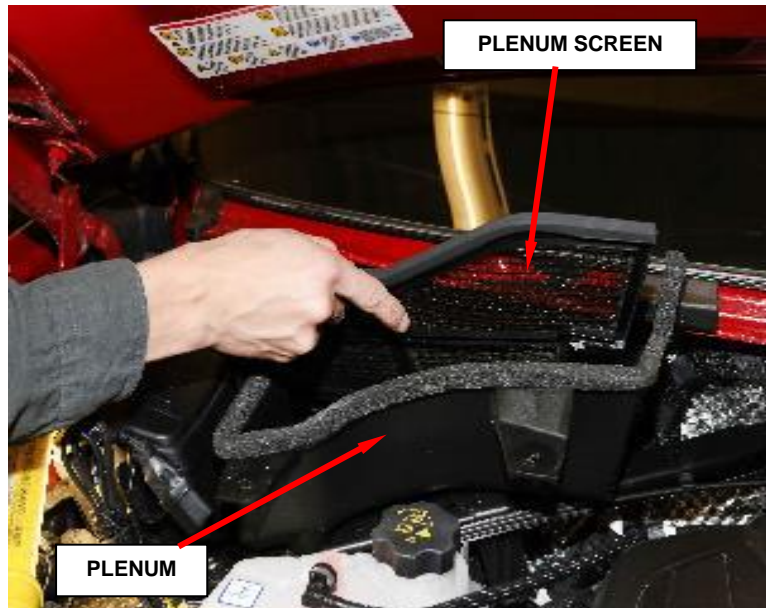

Figure 10 – Plenum Screen
5. Remove the plenum screen (Figure 10).